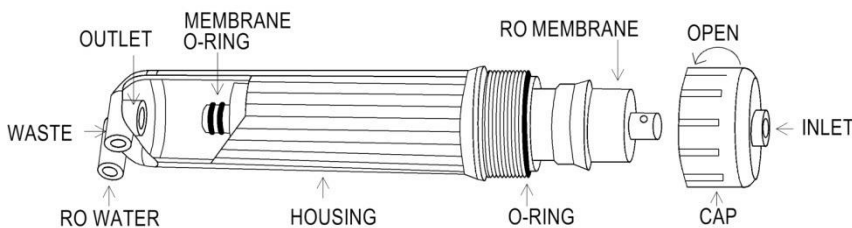

Figure 8
- 6.5 Before twisting the housing cap back on, make sure the **O-ring is seated at the end of the membrane housing** as shown in figures 8 and 9. **This is very important to avoid leaking and damage to the O-ring.**